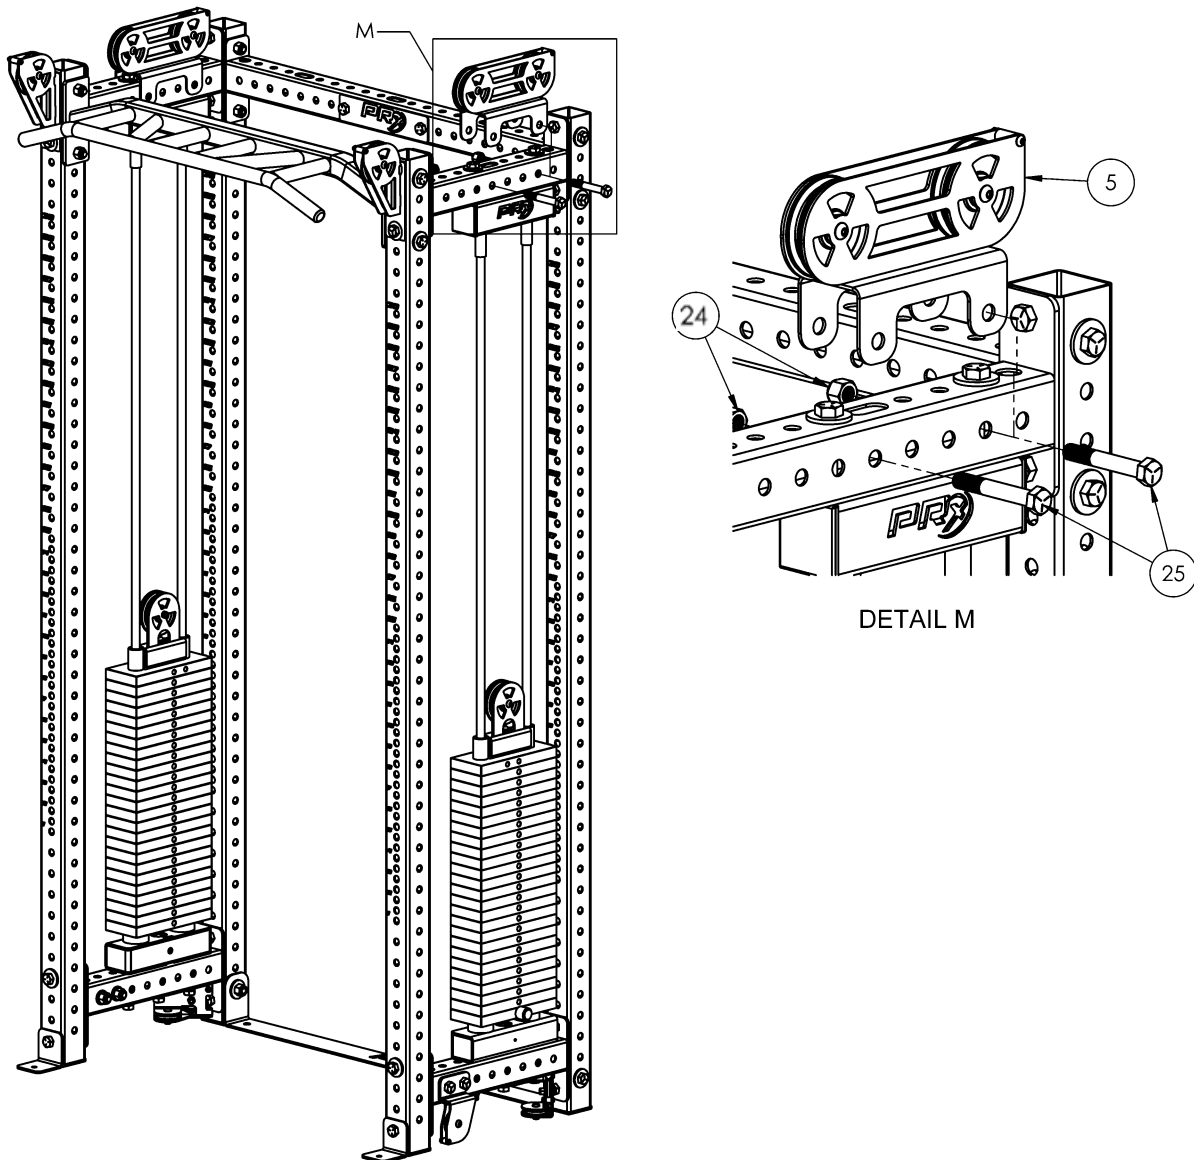

Figure 7
1. Attach Top 2:1 Bracket (5) to top crossmember with hardware shown. **Figure 7, Detail M**
NOTE: Ensure the Top 2:1 Bracket (5) is bolted to the holes shown in Figure 7 so the cables properly align with other brackets.